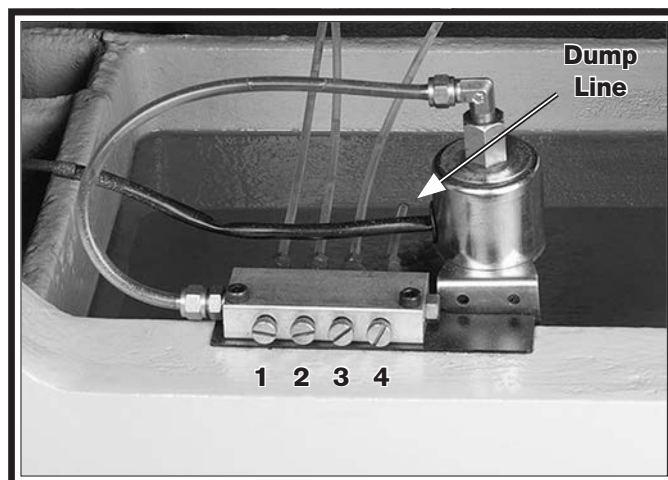

Figure 47. Oil pump and reservoir.
3. Using a standard screwdriver, turn number #1, #2 and #3 needle valves (see **Figure 47**) clockwise to the closed position. **DO NOT OVERTIGHTEN.**
4. Close needle valve #4 (see **Figure 47**), and then open it three full turns.
5. Place a waste oil container under the dump line (see **Figure 47**), and turn the pump on. The waste oil will be pumped into the waste oil container. When the reservoir is empty, wipe the reservoir out with clean rags.